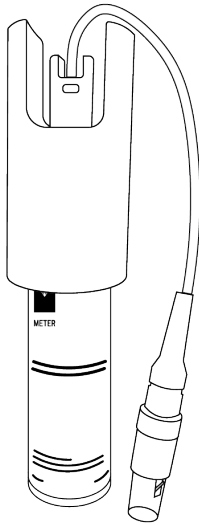

Figure 46 Glycerin file with sensor inserted
5. Press the sensor through the glycerin vial septum (Figure 46).